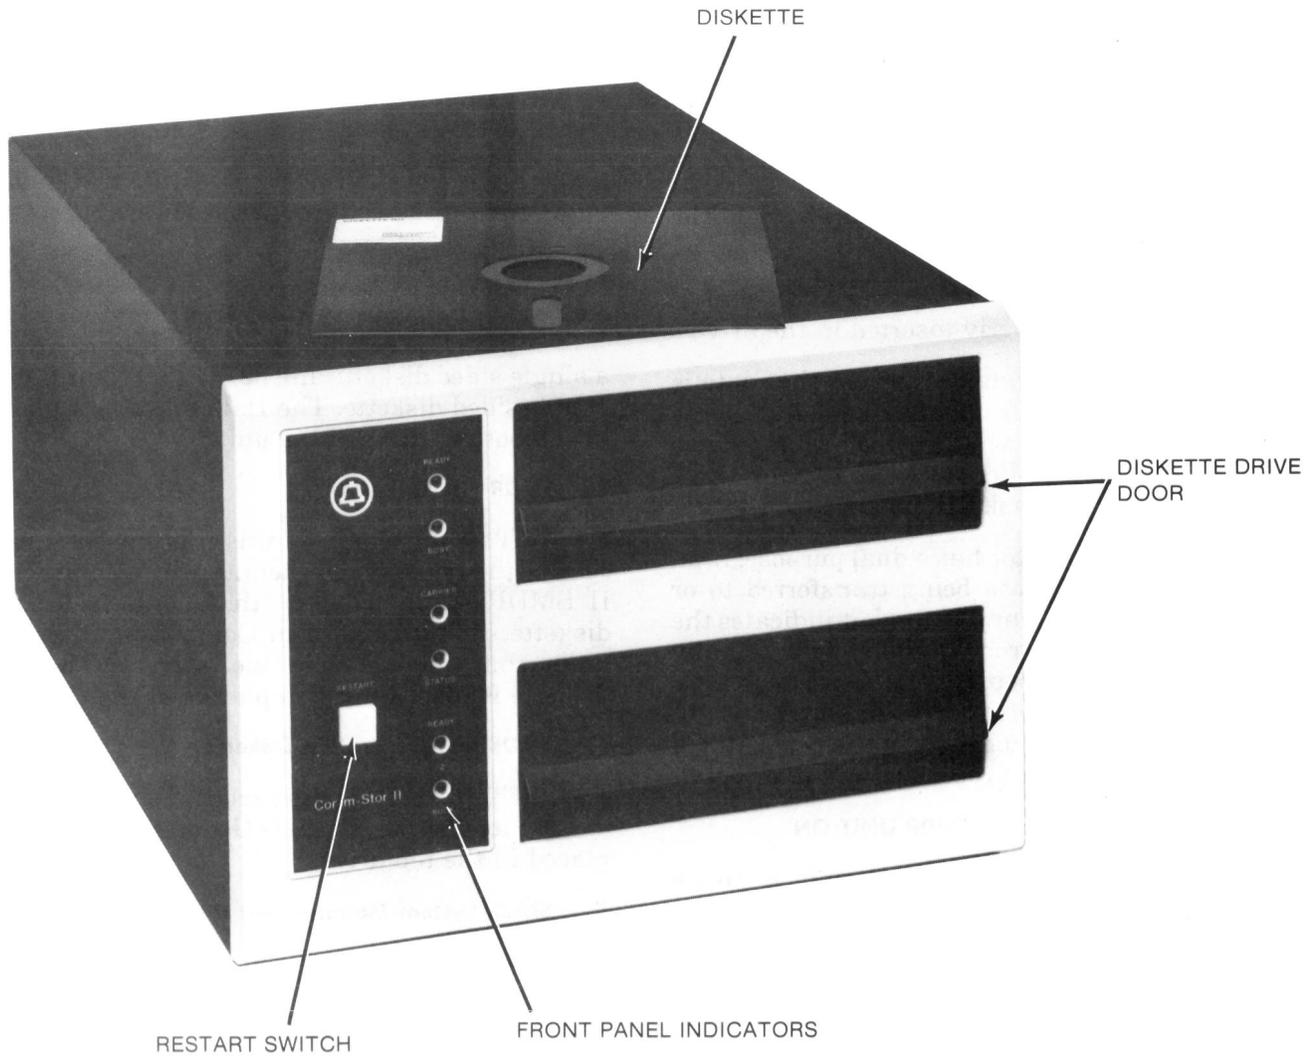

Fig. 2—Front View of the Comm-Stor II/SMDR Unit
5.01 The front panel of the Comm-Stor II/SMDR unit has several indicators to assist the operator. Two of the indicators, **READY** and **BUSY**, are duplicated in a dual drive unit to provide information about each drive. When the unit is turned on, all lamps are illuminated for a short time to allow the operator to perform a visual lamp test. The function of each indicator is described below (Figure 2).
6.10 The drive doors (Figure 2) of all Comm-Stor II/SMDR units are equipped with an interlock which prevents them from closing unless a diskette is fully inserted.